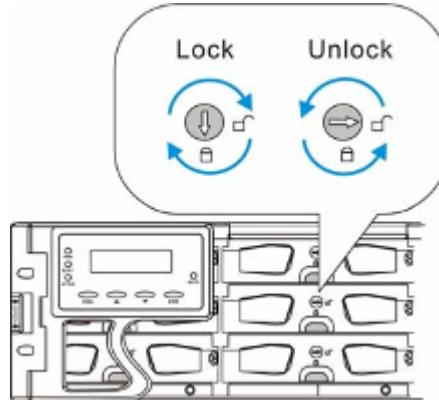

Figure 5-22: Drive Tray Bezel Lock Rotation
Step 2. **Make sure the rotary bezel lock is turned to the unlocked position**, (See *Figure 5-22*) i.e., the groove on its face is in a horizontal orientation. Use a flathead screwdriver to turn the rotary lock to the unlocked orientation.